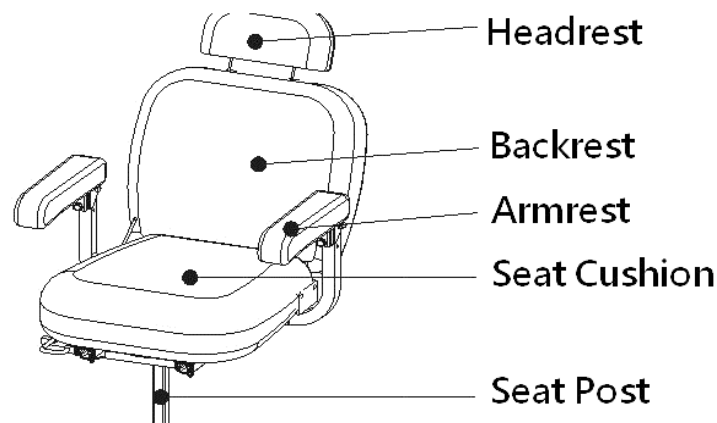

Figure 7.1
7.7.1 Please refer the components of the seat (see Figure 7.1) and follow the below instructions.